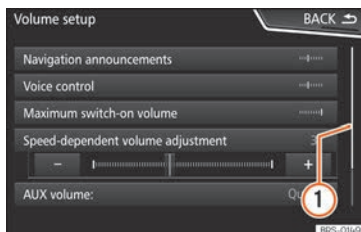

Fig. 166 Entries on a setup menu list.
The scroll bar is shown on the right and its size depends on the entries in the list » Fig. 166 ①.